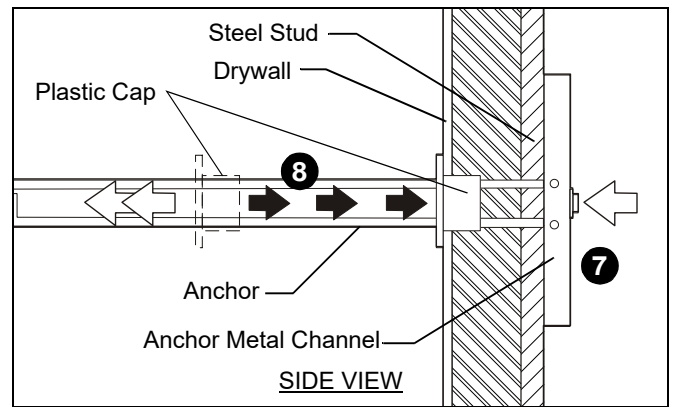

Figure 5
7. Holding plastic straps on anchor (Q), pull anchor away from wall until channel rests flush behind wall making sure anchor channel is positioned vertically on stud. (See Figure 5)
8. Slide plastic cap on anchor towards wall until flange of cap is flush with wall. (See Figure 5)